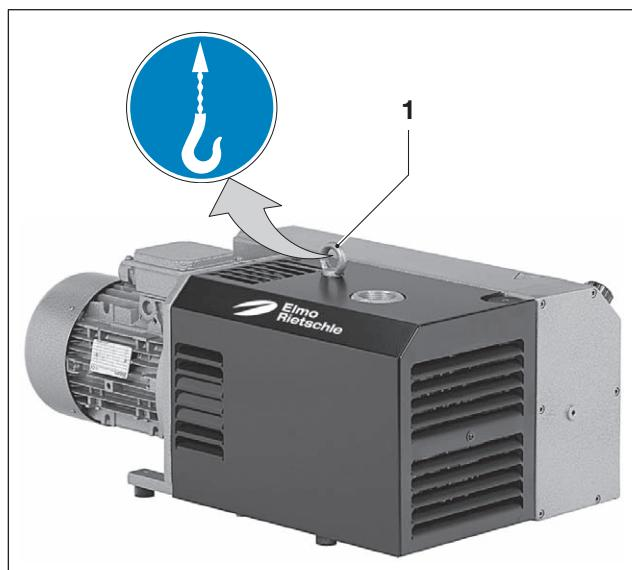

Fig. 1 Lifting and transporting
a) Tighten the eyebolts (Fig. 1/1) firmly.